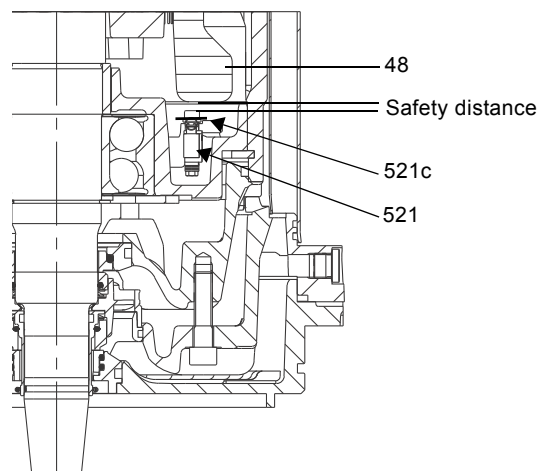

Fig. 22 Safety distance for leakage switch
Tests has proved that it is possible to reduce the distance by pulling the wires from the switch during installation. The reason for the sensor protector (521c) is to ensure that there is no risk of arching or spark if the minimum safety distance between the leakage switch and lower winding (48) head is compromised. See fig. 22.